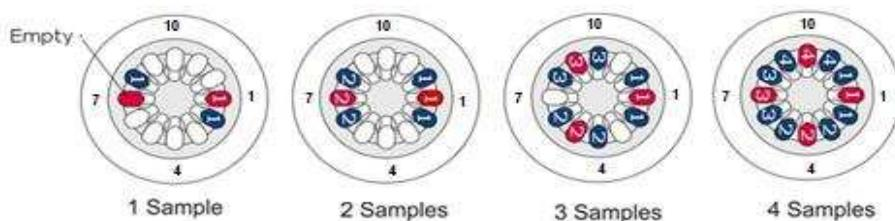

Figure 2. Rotor adapter placement in centrifuge.
11. Place rotor adapters in centrifuge as indicated in Figure 2, according to the number of samples.